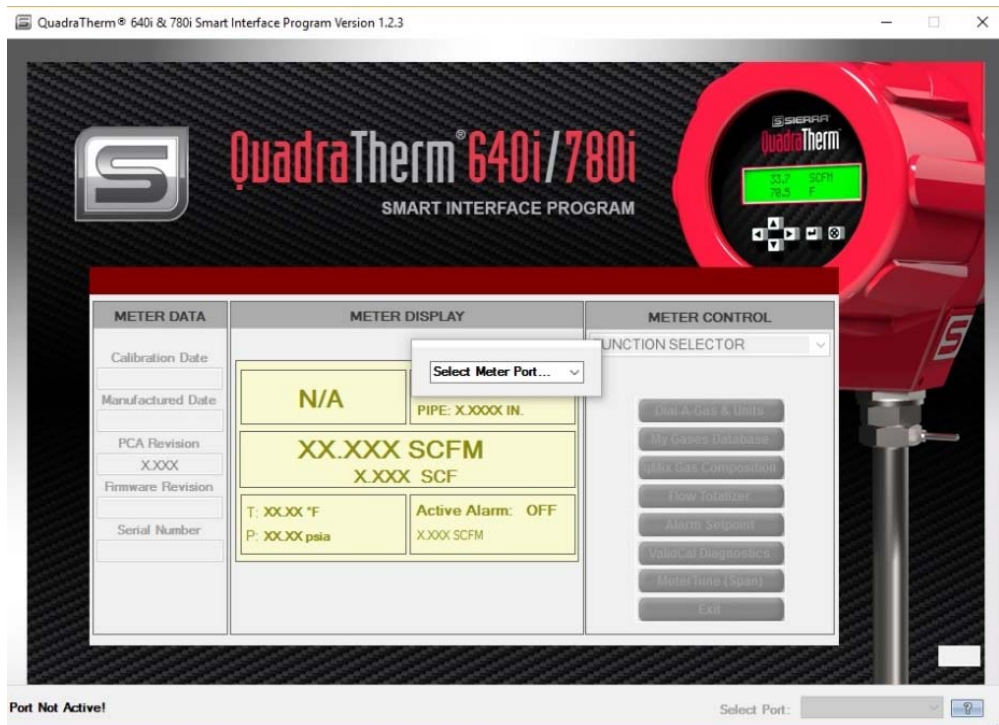

Figure 4. Select Com Meter Port to Use qMix
3. Open the SIP software on your computer and select “COM port” (See Figure 4 below).
4. Open the SIP software on your computer and select “COM port” (See Figure 4 below).